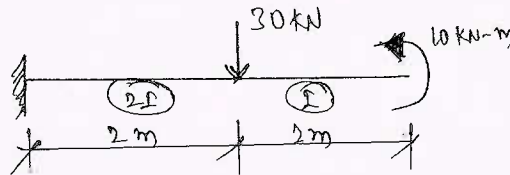

Fig.Q4(a)
- 4 a. Find the maximum slope and deflection at free end for the loaded beam shown in Fig.Q4(a) by Moment Area method.